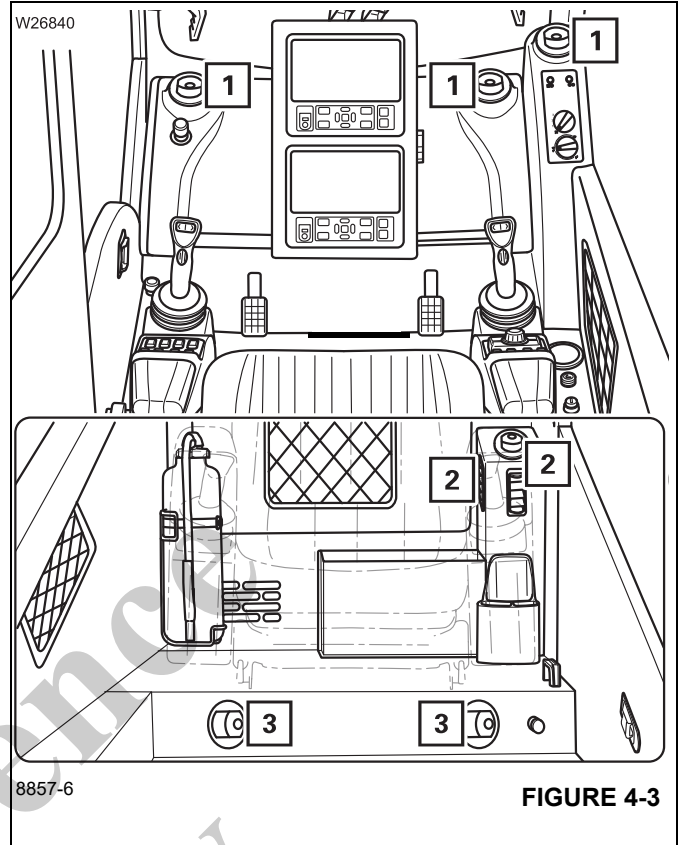

FIGURE 4-3
Turn the switch as shown. Refer to (Figure 4-3).
- Windscreen and middle from the air vents (1), (Figure 4-3).
- Foot area from the air vents (3).
- All air vents (1) to (3).